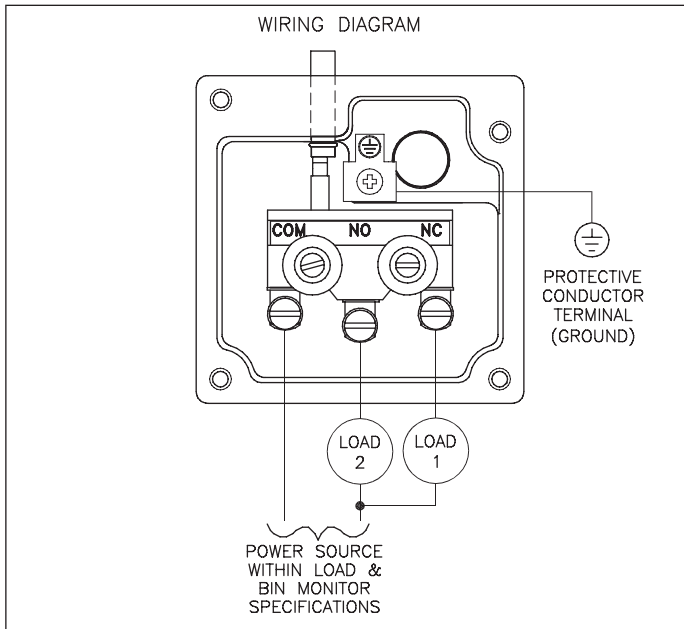

Figure 4
2) Output Contacts (See Figure 4 on next page) - Route wires through the 1/2" NPT conduit entrance. No power is required to operate the diaphragm bin monitor. All electrical installation is done directly to the terminals of the output switch. The switch terminals are designated with "COM" (common), NC (normally closed), NO (normally open). When the diaphragm is not sensing material, the switch is in the normal condition (i.e. NC contact is closed to COM, and NO contact is open to COM). However, when the diaphragm senses material, the switch is opposite from normal condition (i.e. NC contact is open to COM, and NO contact is closed to COM). Be sure to comply with all electrical specifications listed within this bulletin.